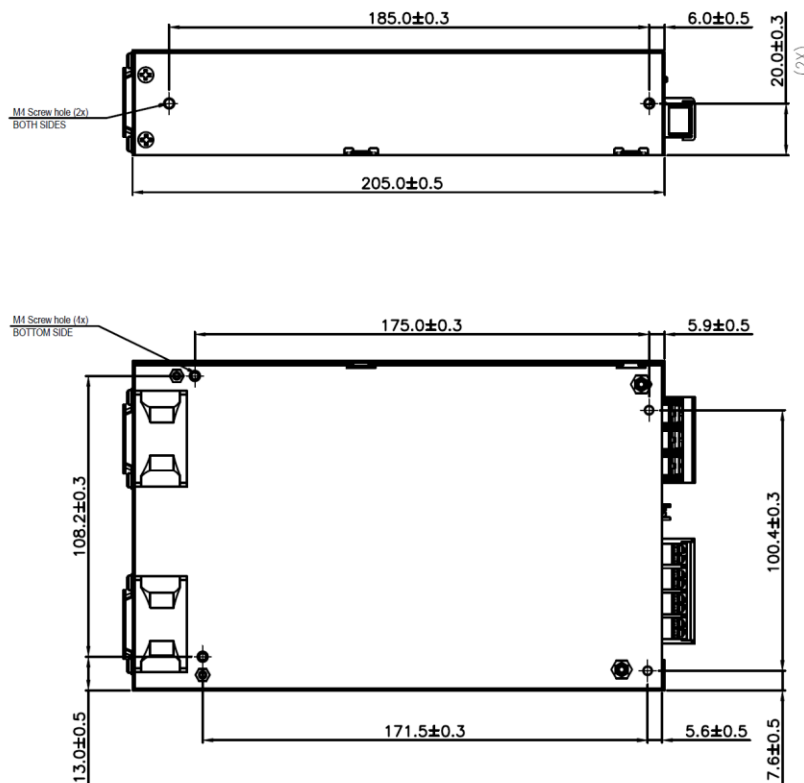

Fig. 5 Assembly Reference
- Ⓐ Base Mounting: Fig. 5 shows the mounting hole locations for power supply assembly onto a metal mounting surface.
- Use flexible cable (stranded or solid) of AWG No. 6. User should calculate and select the suitable wire specification (type/quantity/diameter) according to actual output current. The torque at the Connector shall not exceed 6-7kgf.cm (5.21-6.08 inch.lbs). The insulation stripping length should not exceed 0.275" or 7 mm. (Refer to Fig. 5).